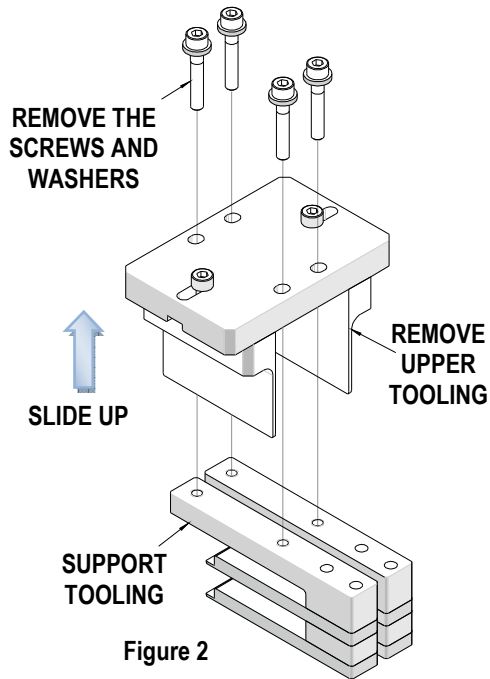

Figure 2
1. Disassemble the (2) halves by unscrewing the screws on the top of the “upper tooling”. See Figure 2.